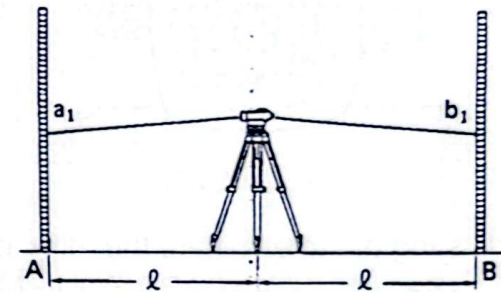

Fig.7.5
- 1) Set the instrument halfway between two points, A and B, 30 to 50m apart. Take readings a_1 and b_1 . (Fig.7.5)